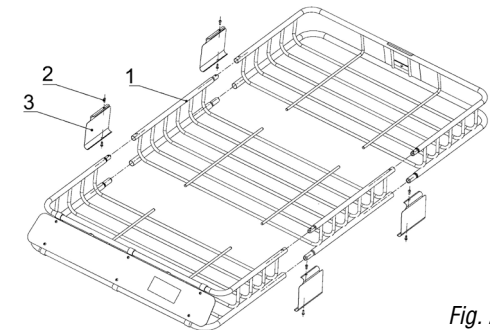

Fig. 2
2. Place the extension (#1) between two halves of roof rack. Slide the three sections together until all are seated (Fig. 2).
3. Reattach all side plates (#3) and secure each plate by using two M6*16 bolts (#2) (Fig. 2).